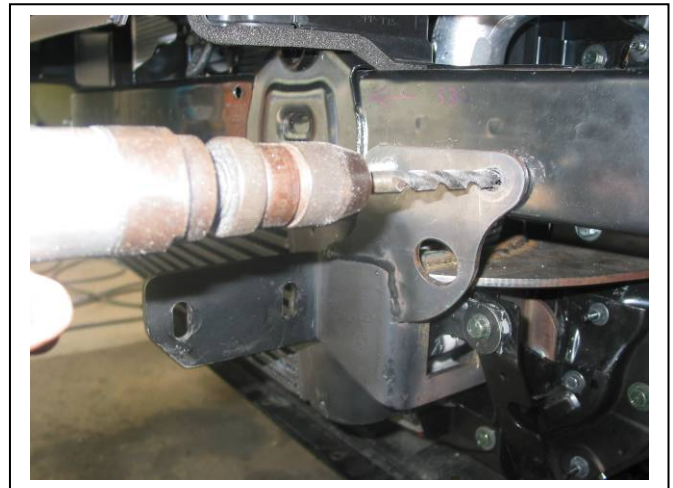

Figure 8 – Using 10mm drill in top of ECB mount bracket
- Using ECB Steel mounting brackets as a guide, drill two 10mm holes (per side) in front of bumper support. **See figure 8. NOTE: Blow all filings from chassis and treat all drilled holes with paint or rust proofing as installing.** Fit two 3/8 x 1 ¼ bolts and washers on 300mm wire (per side) into end of bumper support to line up with holes, Secure with 3/8 nuts, spring washers and flat washers. **Tighten all bolts.**